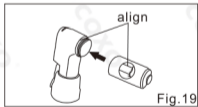

Fig.19
- 4) Completely insert the cartridge until the cartridge end face aligns with the end face of the handpiece head (Fig.19).